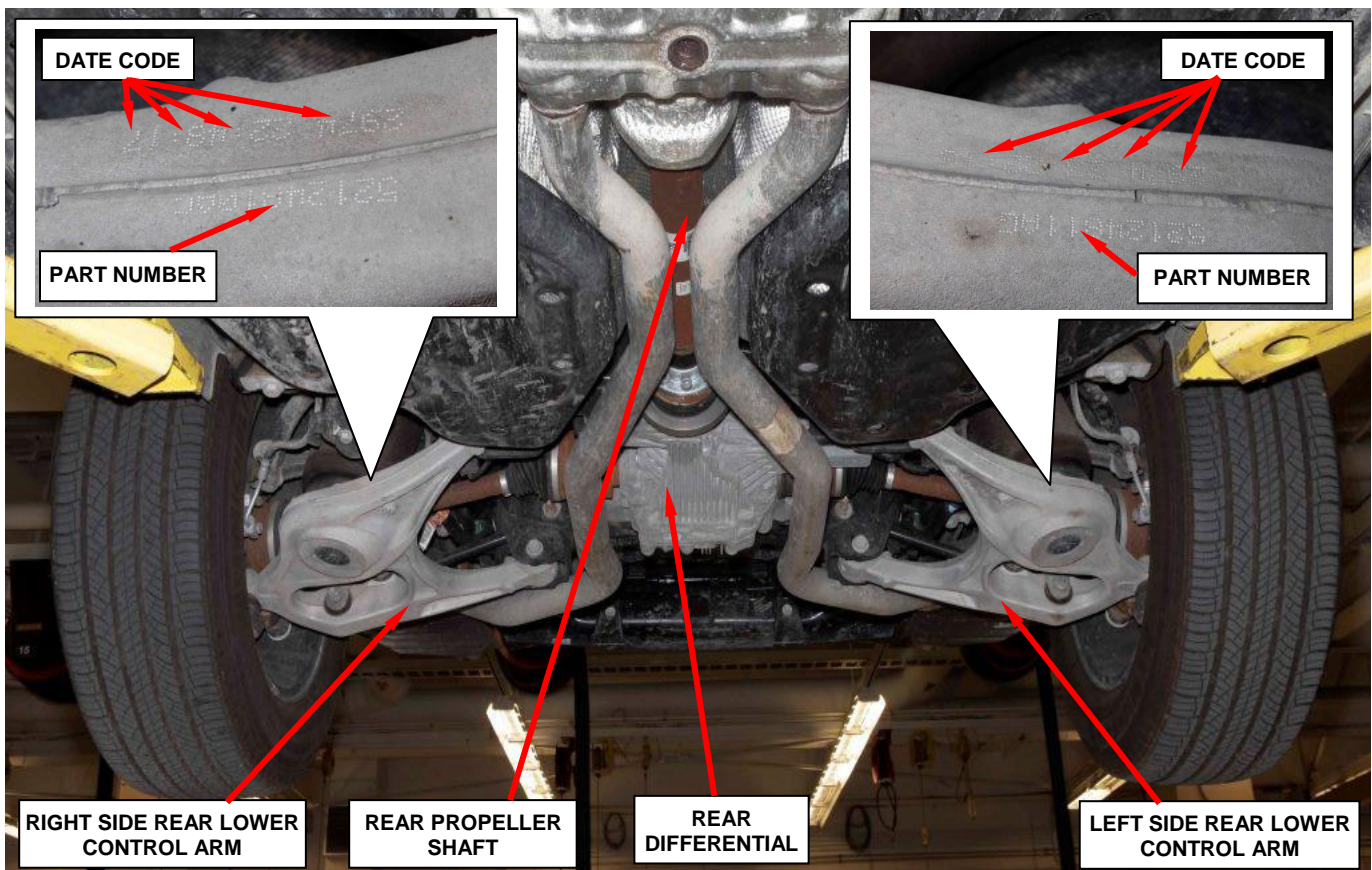

Figure 1 – Date Code Location
3. Carefully clean the rear suspension lower control arms at the area where the build date code is located (Figure 1).